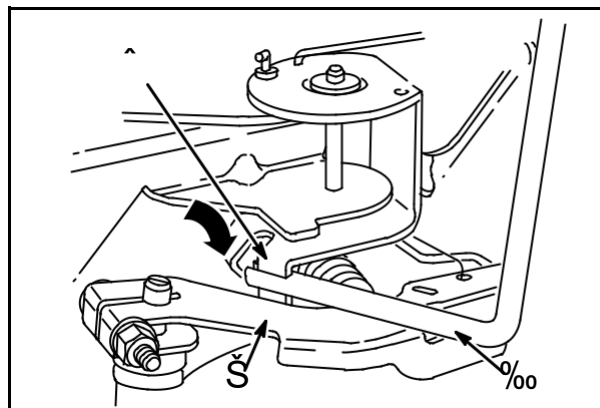

Fig. 14
With equipment control lever in SLOW position and engine running at governed idle, use Tang Bender, #19352 (9), to bend throttle restrictor tang (8) so that tang just contacts governor lever (10), **Fig. 14**.